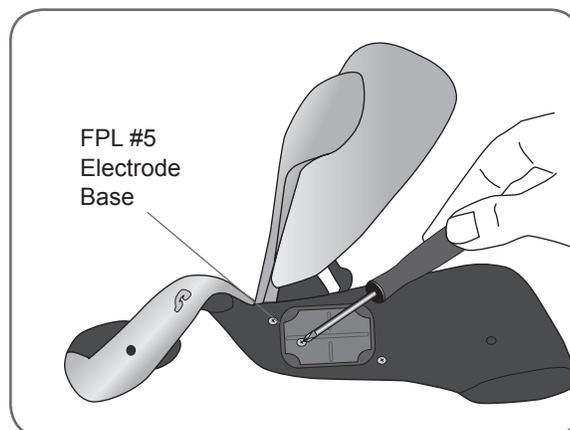

Figure 6-14: Removing the screw from the FPL #5 electrode base.
3. Remove the screw from the Orthosis FPL #5 electrode base. Do not remove the electrode base. See Figure 6-14.